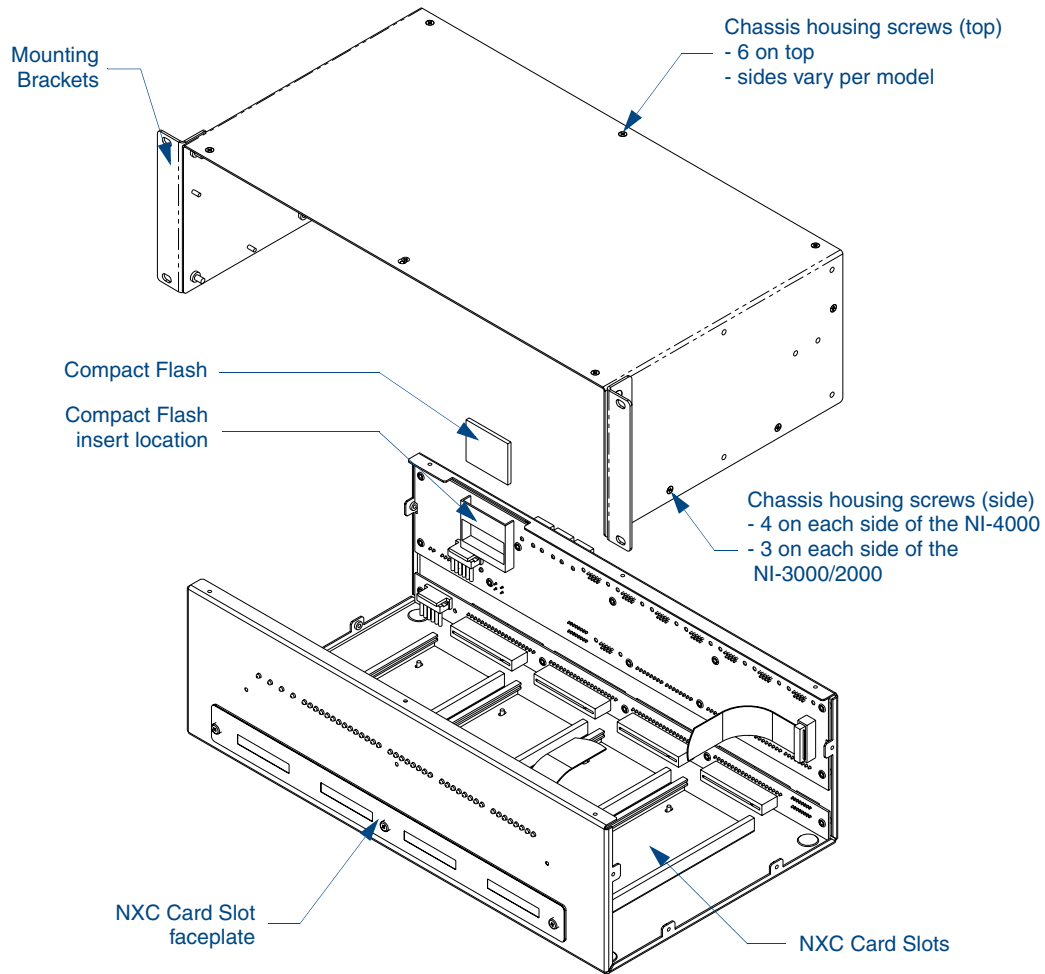

FIG. 3 Location of the Compact Flash within a sample Integrated Controller
2. Remove the chassis housing screws from both the sides and top of the Controller, as shown in FIG. 3 by using a grounded screwdriver turning in a counter-clockwise rotation.
3. Carefully pull-up and remove the housing up and away from the Controller to expose the internal circuit board (FIG. 3).
2. Locate the 32 MB Compact Flash card on the main board. For more detailed information on component locations, refer to FIG. 3.
2. Insert and secure the chassis housing screws back into their respective locations, as shown in FIG. 3 by using a grounded screwdriver.